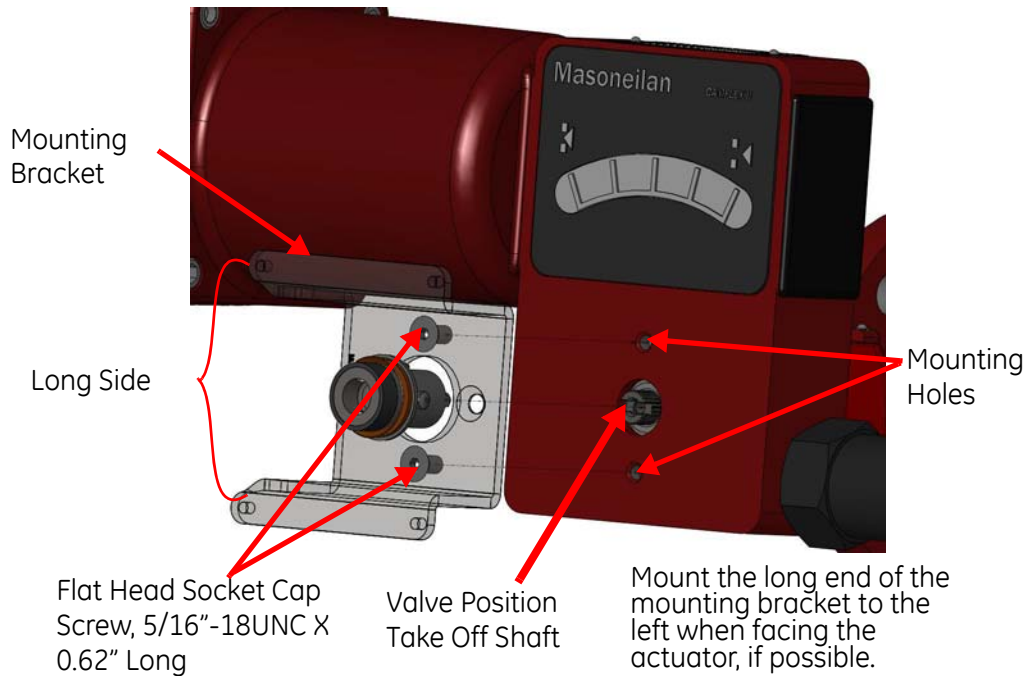

Figure 14 Rotary Mounting Bracket to Valve Actuator
1. Attach the mounting bracket to actuator (Figure 14).